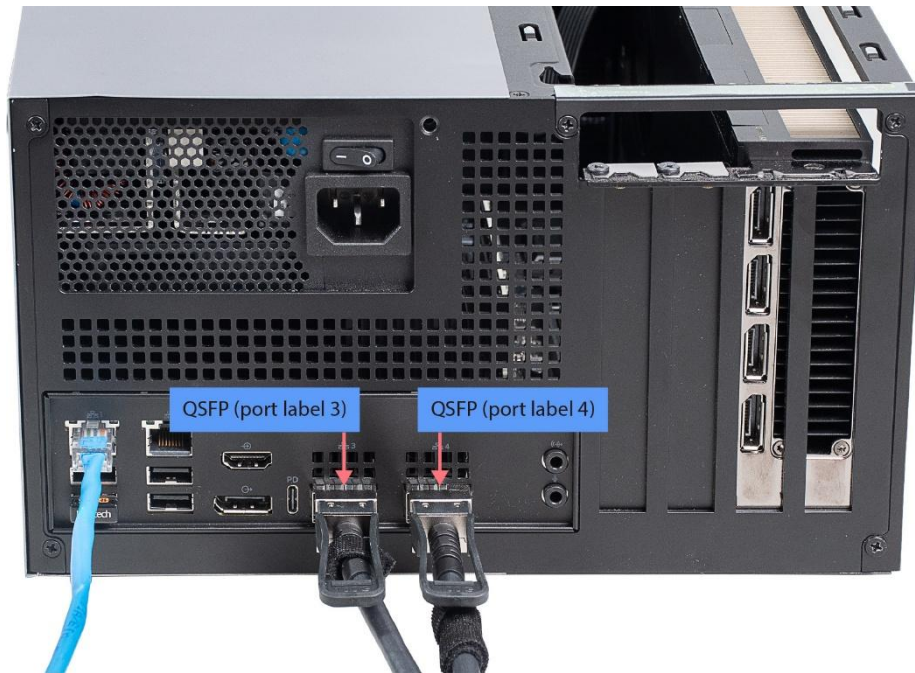

Figure 2-2 IGX Dev Kit backplane connections
3. Connect the QSFP cable from HSB port J3 to the port labelled 4 and HSB port J2 to the port labelled 3 on the back of the IGX as shown in **Figure 2-2**.